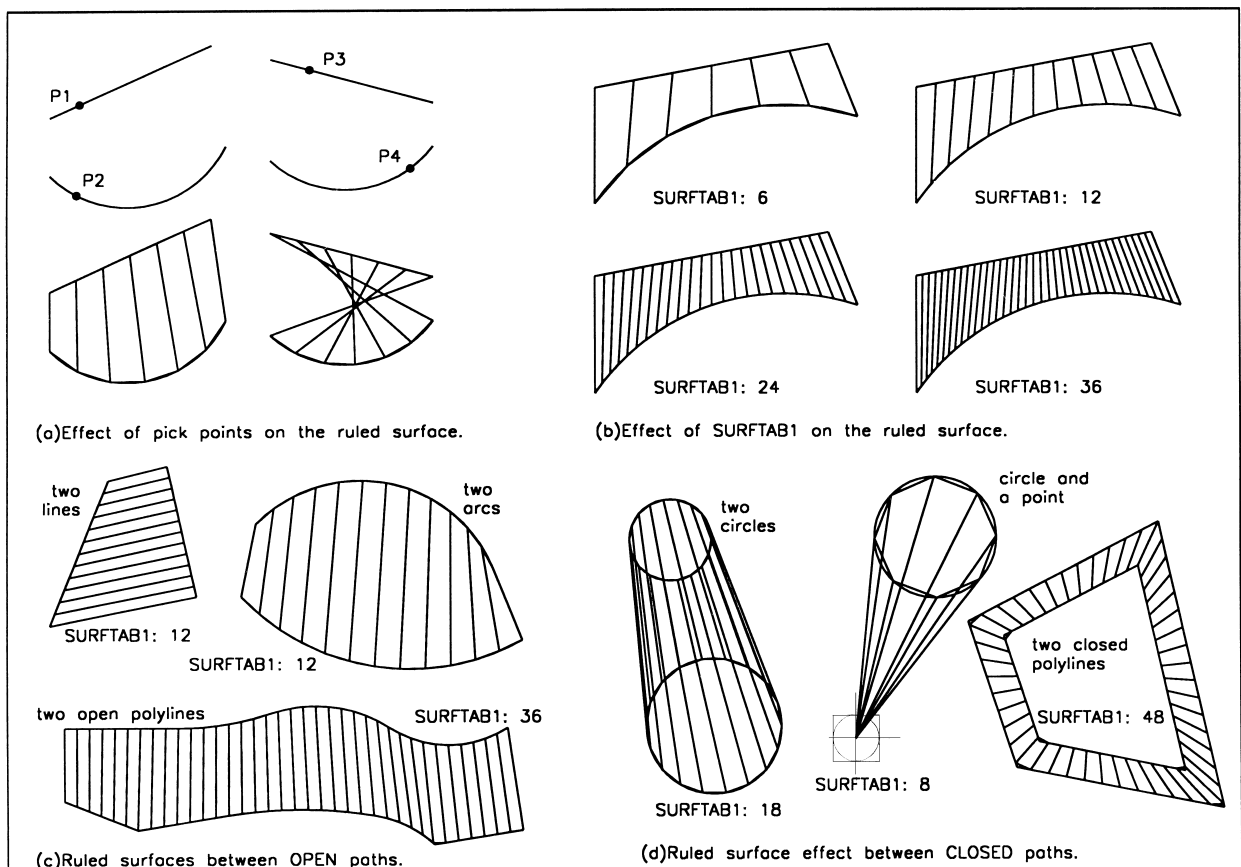

Figure 16.1 Ruled surface example 1 – usage and basic terminology.
- 1 Begin a new 2D drawing from scratch (metric) and create two layers, MOD (red) and RULSUR (blue). Refer to Fig. 16.1